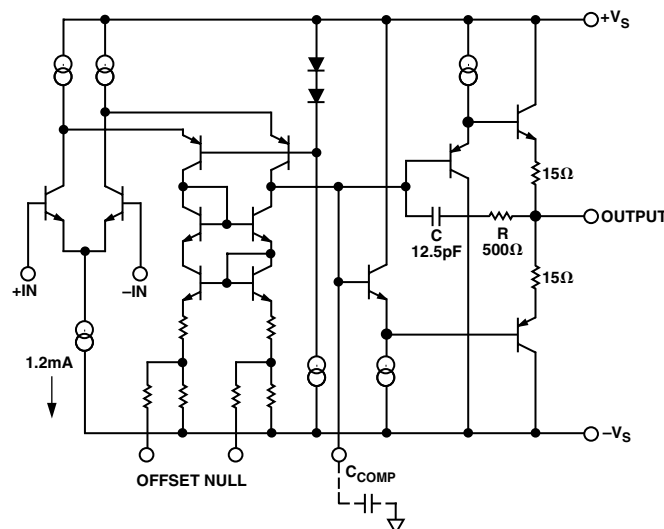

Figure 6. Simplified Schematic
The AD829 is fabricated on Analog Devices' proprietary complementary bipolar (CB) process, which provides PNP and NPN transistors with similar f_T s of 600 MHz. As shown in Figure 6, the AD829 input stage consists of an NPN differential pair in which each transistor operates at 600 μ A collector current. This gives the input devices a high transconductance, which in turn gives the AD829 a low noise figure of 2 $\text{nV}/\sqrt{\text{Hz}}$ @ 1 kHz.
An RC network in the output stage (Figure 6) completely removes the effect of capacitive loading when the amplifier is compensated for closed-loop gains of 10 or higher. At low frequencies, and with low capacitive loads, the gain from the compensation node to the output is very close to unity. In this case, C is bootstrapped and does not contribute to the compensation capacitance of the device. As the capacitive load is increased, a pole is formed with the output impedance of the output stage this reduces the gain, and subsequently, C is incompletely bootstrapped. Therefore, some fraction of C contributes to the compensation capacitance, and the unity gain bandwidth falls. As the load capacitance is further increased, the bandwidth continues to fall and the amplifier remains stable.